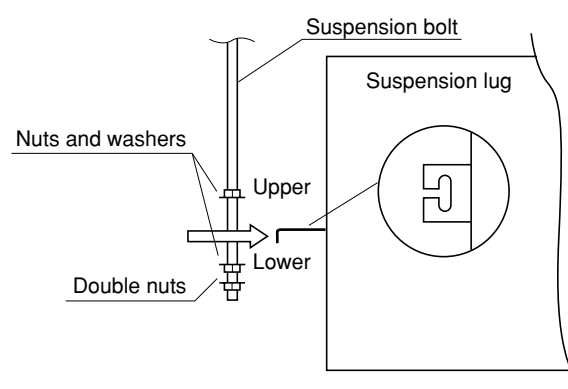

Fig. 3-40
- (2) Thread the 3 hexagonal nuts and 2 washers (field supply) onto each of the 4 suspension bolts as shown in Fig. 3-40. Use 1 nut and 1 washer for the upper side, and 2 nuts and 1 washer for the lower side, so that the unit will not fall off the suspension lugs.